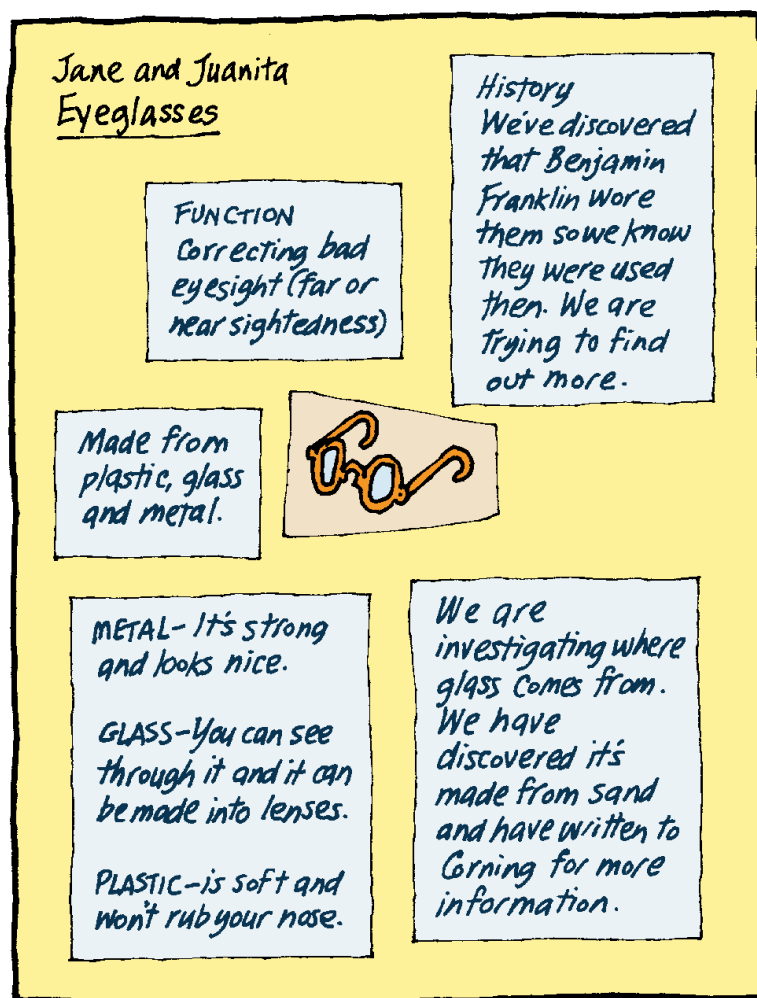

Figure 10.2 Example of an outline of Anchor Activity research
3. Use your notes to help you conduct a brainstorming session with your partner. After the brainstorming session, write an outline of your investigation. The outline should be in a format similar to that shown in Figure 10.2.